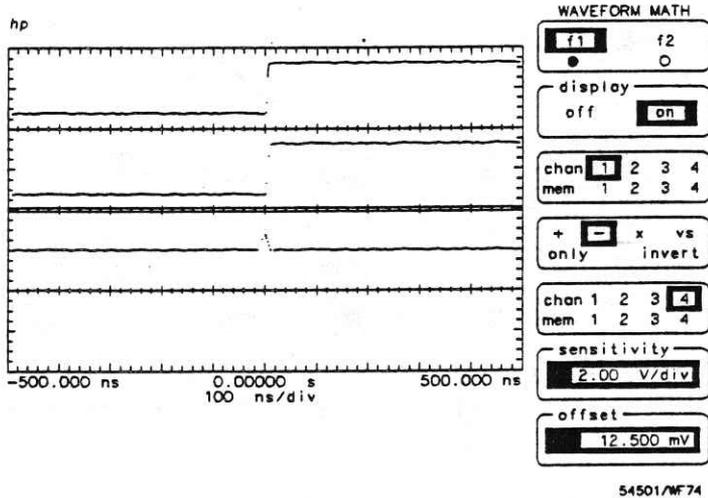

Figure 9-5. Channel 1 minus Channel 4
- Press **TIMEBASE** and set the horizontal display to 50.0 ns/div (see Figure 9-5).